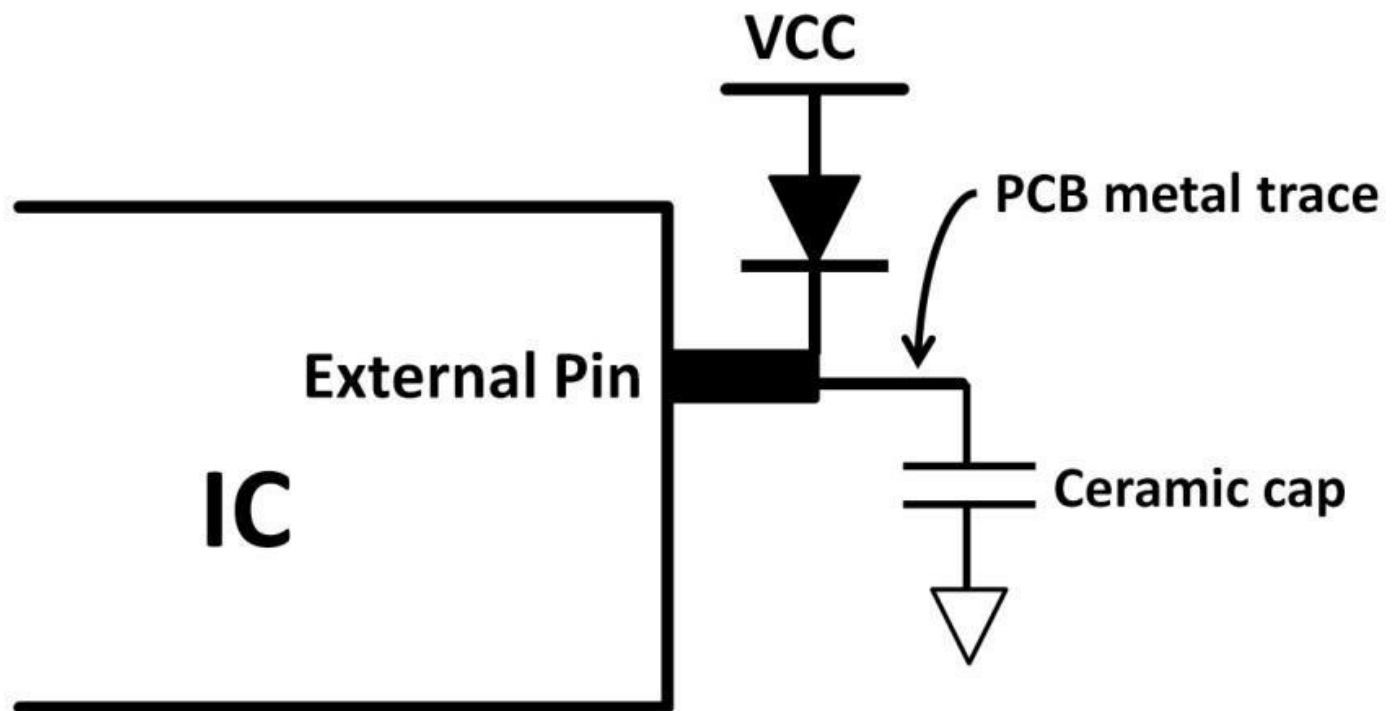

Figure 3.66: Ceramic capacitor noise filter
8) Ceramic capacitors are often used in filtering noise due to their small size and low cost. Figure 3.66 shows a simple application using a ceramic capacitor to filter out high frequency noise to the IC. In actual implementation, the location of the capacitor needs to be as close as possible to the chip to minimize any noise pickup along the board traces. What is the purpose of the diode from VCC to the external pin? If the VCC contains AC noise running as high as 100 kHz, what is the size of the ceramic capacitor in order to reduce noise starting at f_{-3dB} , assuming the output impedance of the external pin is 100 Ω ?